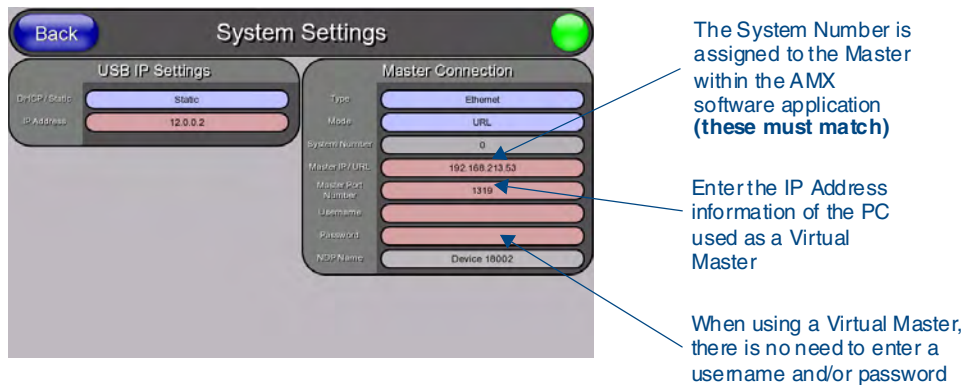

FIG. 39 Sample System Settings page (for Virtual Master communication)
11. Select **Protected Setup > System Settings** to open the *System Settings* page (FIG. 39).